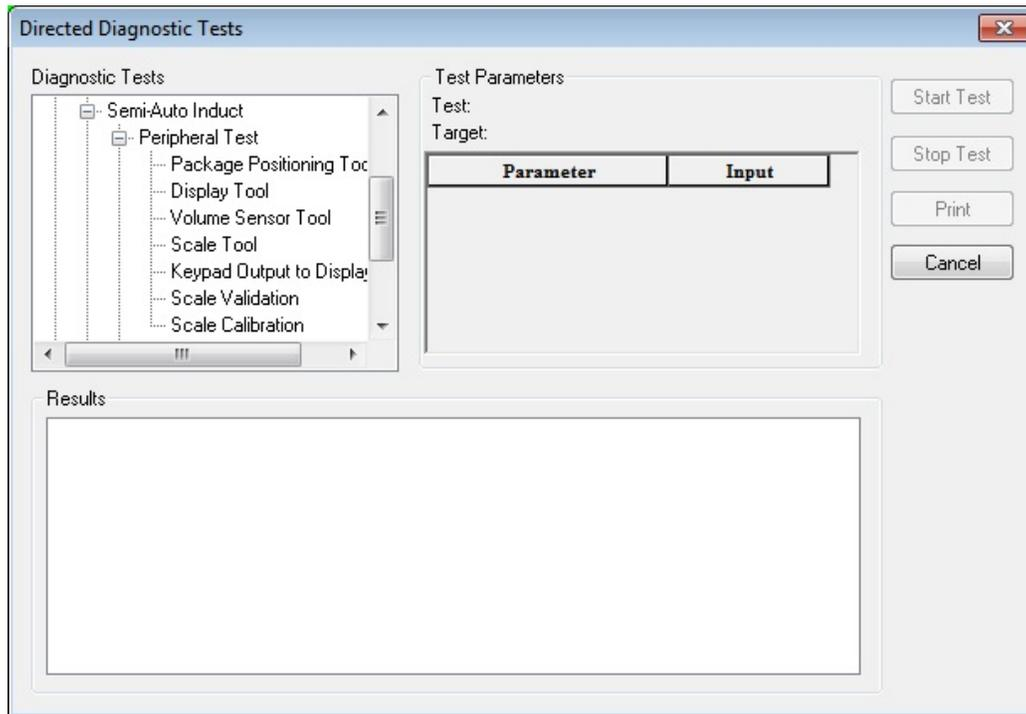

Figure 1-3. Semi-Auto Induct / Peripheral Test Menu Options
7. Click **Semi-Auto Induct** and **Peripheral Test**. Peripheral Test directed diagnostics options are displayed (Figure 1-3).